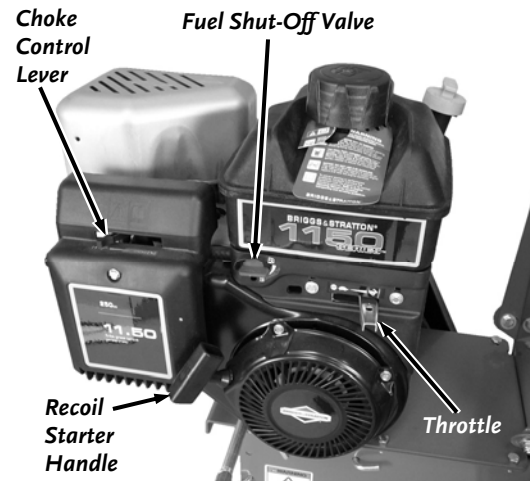

Figure 7
2. Turn the Fuel Shut-Off Valve to the OPEN position (**Figure 7**).
Move the Throttle Control Lever all the way to the left past the SLOW (Turtle) position to the “STOP” position (**Figure 7**).